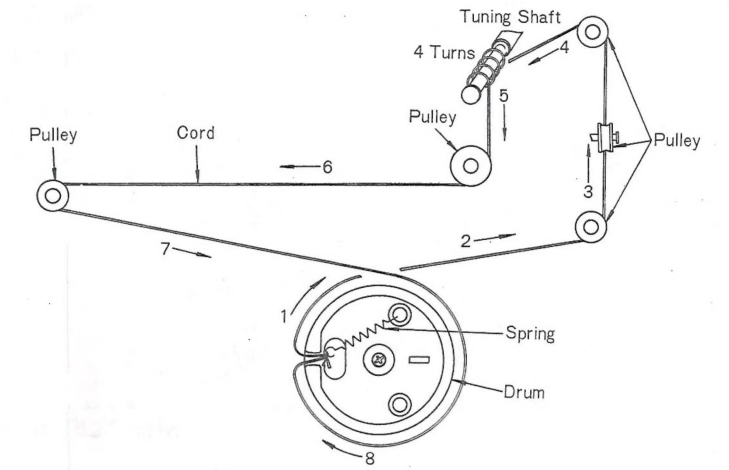

Fig. 4
3. Arrows (1~8) indicate correct order and direction of installation dial cord. (Fig. 4)